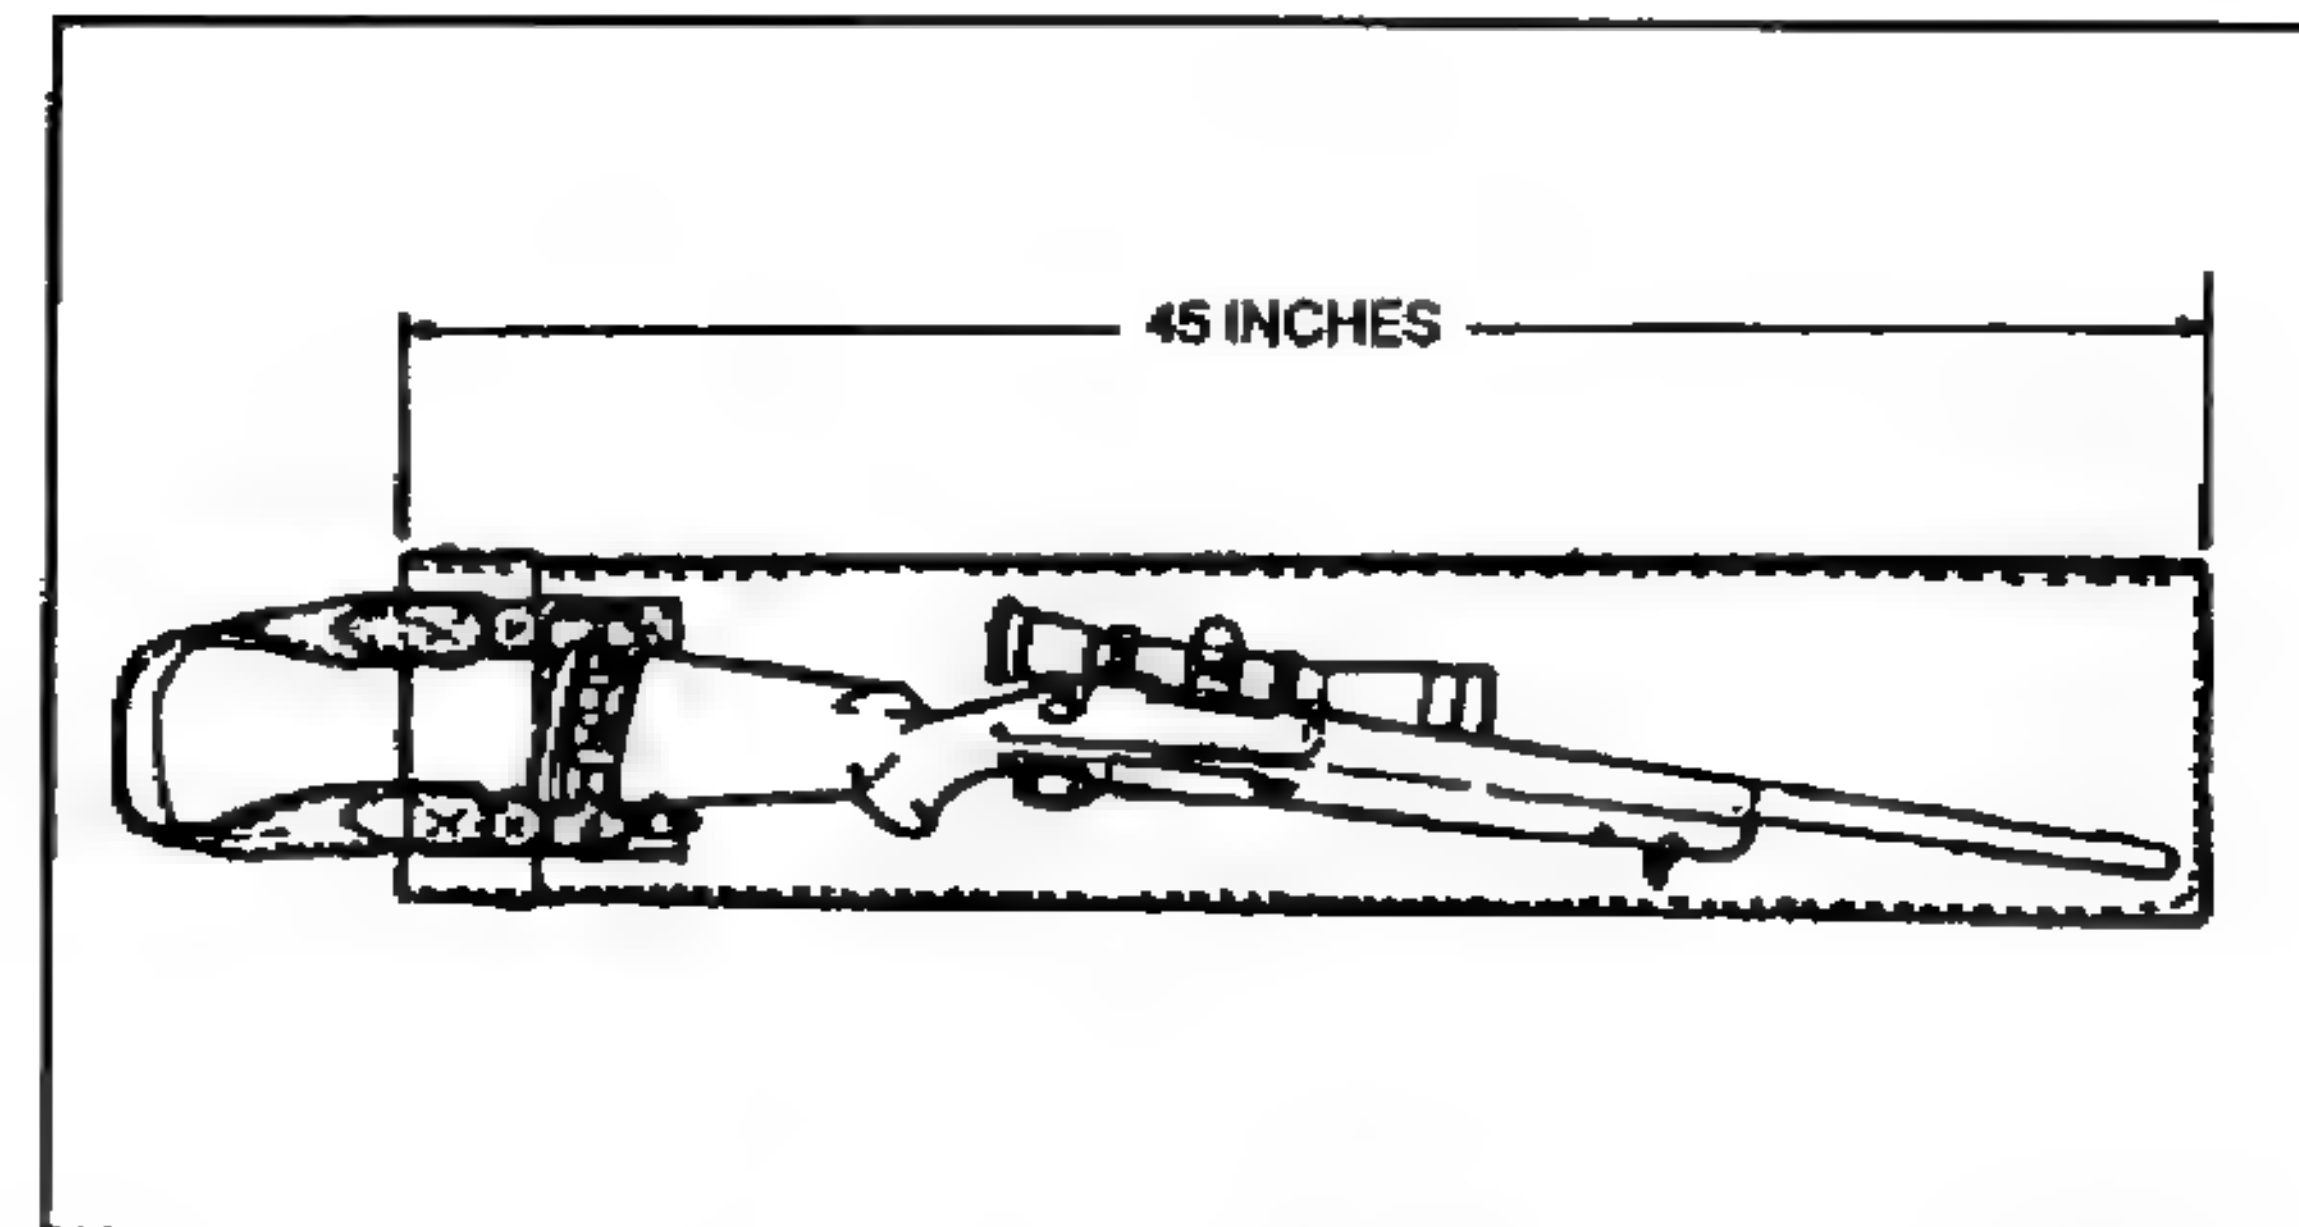

Figure 4-2. Drag bag.
(1) *Rifles.* The sniper weapon system and the M16/M203 should also be camouflaged to break up their outlines. The sniper weapon system can be carried in a "drag bag" (Figure 4-2), which is a rifle case made of canvas and covered with garnish similar to the ghillie suit.